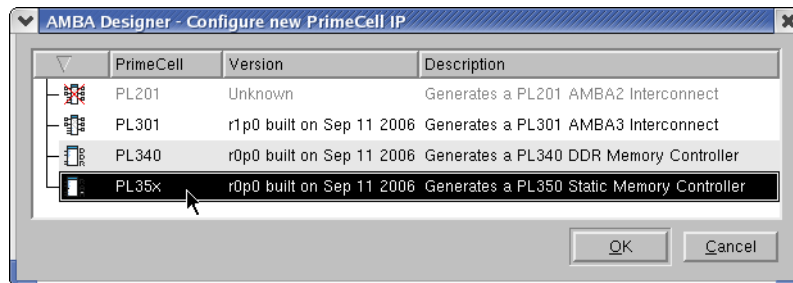

Figure 6-3 Selecting the PL35x
- a. Click on the row containing a PrimeCell name of PL35x, as Figure 6-3 shows.